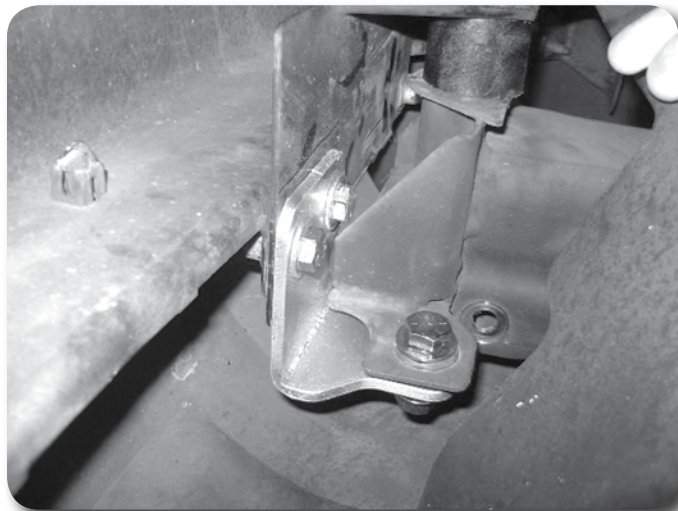

Figure 24B
47. Attach the new lower brackets to the original bumper mounts on the frame with the provided 1/2" x 1-1/4" bolts, nuts and washers. Figure 24B Leave hardware loose.